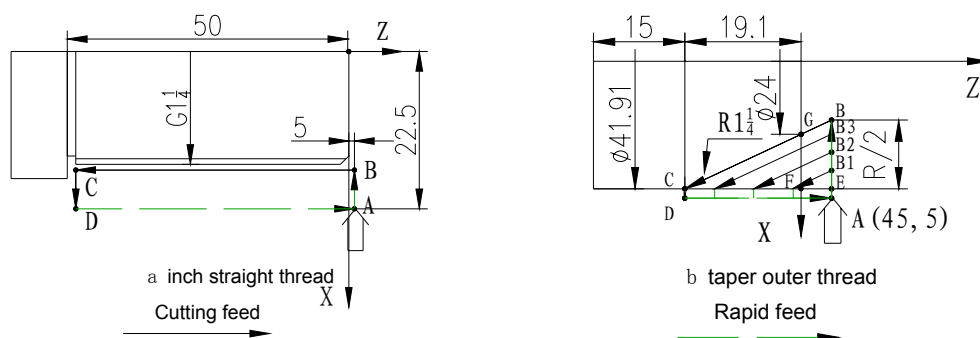

Fig. 4-28
5) Compound example: as Fig. 4-28
Example 1: Metric straight thread as Fig. 4-28 a. ( $G1\frac{1}{4}$ :11 teeth,  $D=41.910$ ,  $D2=40.431$ ,  $D1=38.952$ )
**Example 2:** Outer taper thread as Fig. 4-28 b ( $R1 \frac{1}{4}$ : D=41.910, D2=40.431, D1=28.952, P=2.309, the valid length of thread is 19.1)